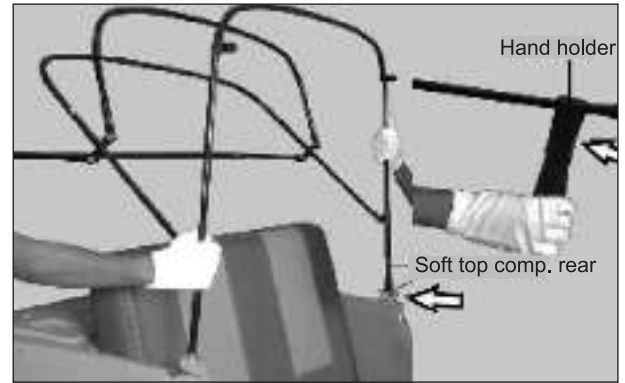

Fig. 9.4
- Assemble the soft top complete rear 'C' pillar assembly in the bracket soft top cabin welded nut by hexagonal screw M6x16 along with a plain washer and a wave spring washer. Ensure the hexagonal screw head facing inside the passenger cabin. (Fig. 9.4)